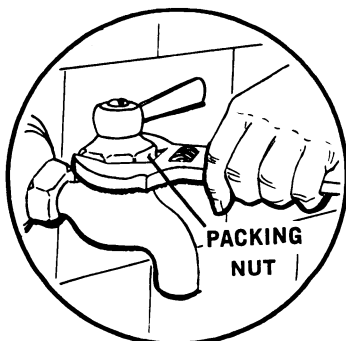
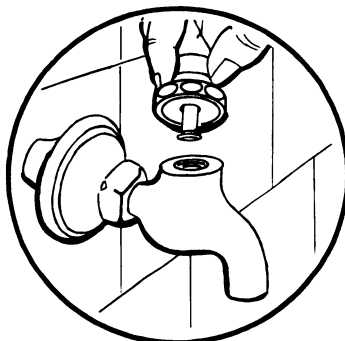

Fig. 2
Fig. 3
2. Loosen packing nut with wrench. (Fig. 2) (Most nuts loosen by turning counter-clockwise.) Use the handle to pull out the valve unit. (Fig. 3)